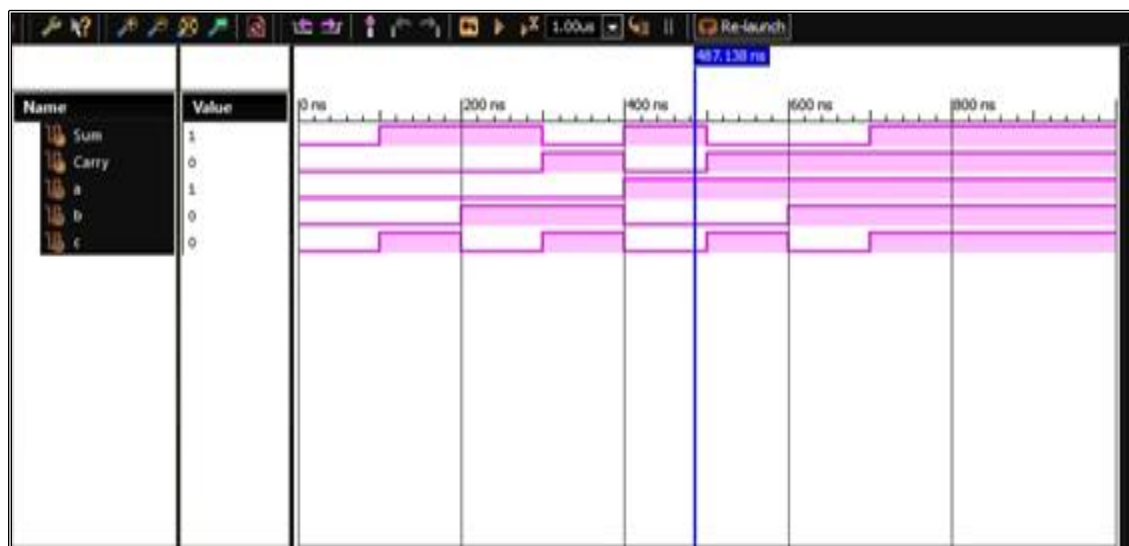

Fig 3.14: Simulated waveforms
- A new window showing the waveforms for the inputs and outputs of the design will be displayed. The simulated waveform for the full adder is shown in Fig 3.14.